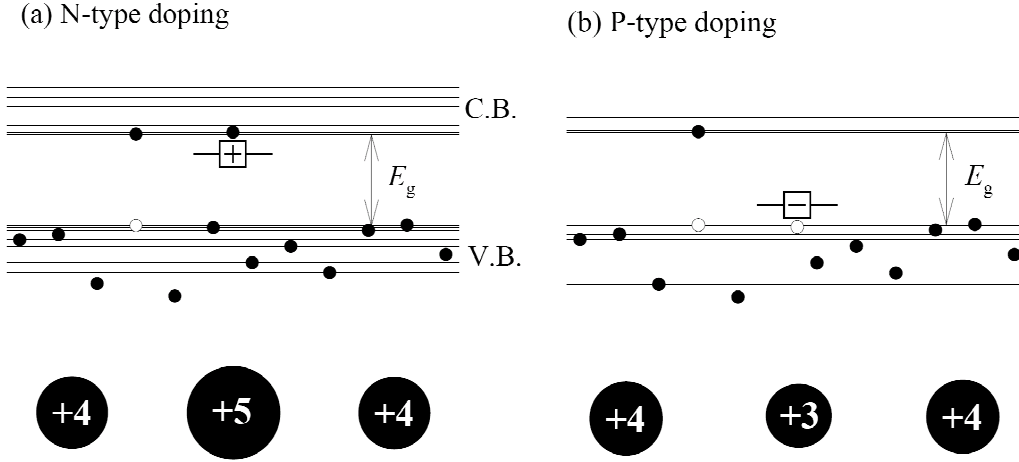

Figure 10: Effects of doping in energy-band model presentation.
- P- and N-type doping introduce states in the energy gap. See figure 10.